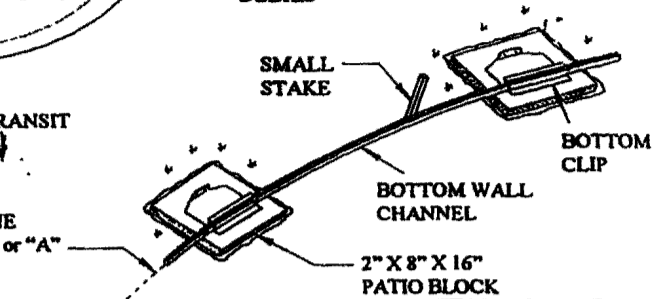

FIGURE 2
Step 7: See Figures 2, 3, 7 and 8. Mark line "A" as shown in the table on page 3. Insert the short wall channel into the adapter. Create a half circle on line "A" by sliding the longer wall channels into the bottom clips. Place a 2" thick patio block under each bottom clip. If the bottom wall channel is on soft ground, place additional blocks in a pyramidal shape under the bottom clips for support. Dig 2" down for each block. *The top of each block must be at grade level.* Place a stake at the center of each wall channel to keep the half circle round during installation. Repeat for other end.